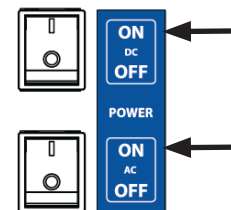

Figure 39. Set both power switches to ON
8. Set both AC and DC power switches to ON (Figure 39).